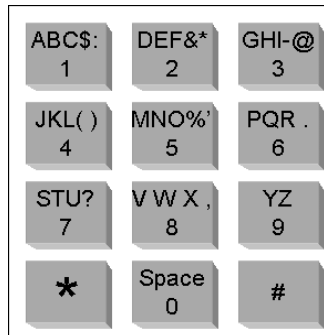

Figure 3. Alternate Keypad Functions
Refer to Figure 3 for the different characters available for each key. Press each key until the desired character displayed. Press the (#) key to accept the character and continue to the next character. When you have finished entering the Wash Name, press the enter (*) key.
- Using the (3) key to scroll forward and the (1) key to scroll back, scroll through the main menu until the “Wash Setup” option is displayed. Press the (*) key to enter.
- Using Figure 3 above as a guide, program the wash 1 name. Once you have entered the entire wash name, press the (*) key to enter.
2. Using the (3) key to scroll forward and the (1) key to scroll back, scroll through the main menu until the "Option Setup" option is displayed. Press the (*) key to enter.
4. Using Figure 3 above as a guide, program the option 1 name. Once you have entered the entire option name, press the (*) key to enter.
Refer to Figure 3 for the different characters available for each key. Press each key until the desired character displayed. The key will cycle through each upper and lower case character first, then the number, then punctuation. Press the (#) key to accept the character and continue to the next character. When you have finished entering the Text Messages, press the enter (*) key.
2. Using the (3) key to scroll forward and the (1) key to scroll back, scroll through the main menu until the "Text Messages" option is displayed. Press the (*) key to enter.
5. Enter your Receipt Header text using the keypad. Refer to Figure 3 for the alternate key functions. When you have finished programming the text, press the (*) key to return to the Receipt Header menu.
4. You will be prompted to "Enter Screen #". Select Screen (1) or (2). Press the (*) key to enter.
5. You will be prompted “Enter Line #”. Select Line (1) or (2). Press the (*) key to enter.
6. Enter the customized greeting text using the keypad. Refer to Figure 3 for the alternate key functions. When you have finished programming the text, press the (*) key to return to the Text Messages menu.